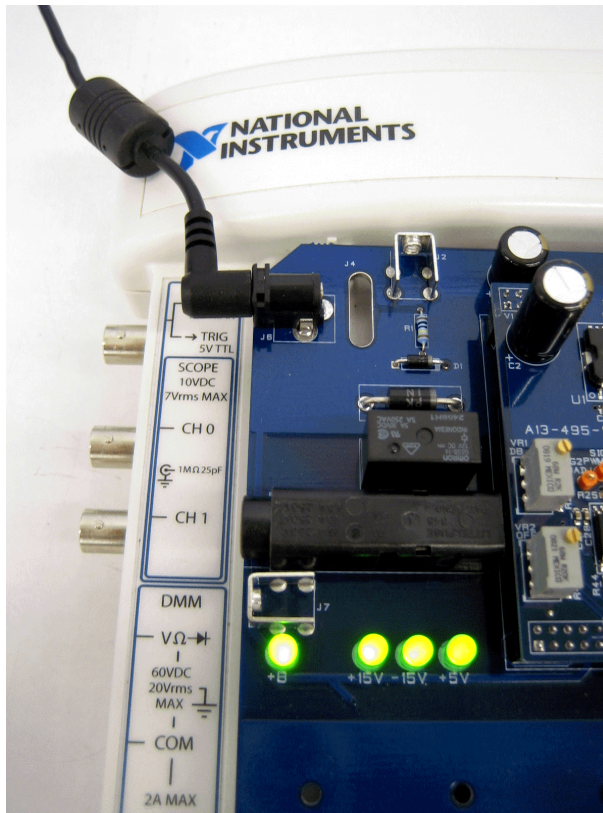

Figure 6.8: QNET LEDs should all be ON
9. As pictured in Figure 6.8, verify that the +15V, -15V, +5V, and +B LEDs on the QNET module are lit. They indicate that the board has been properly connected to the ELVIS unit.